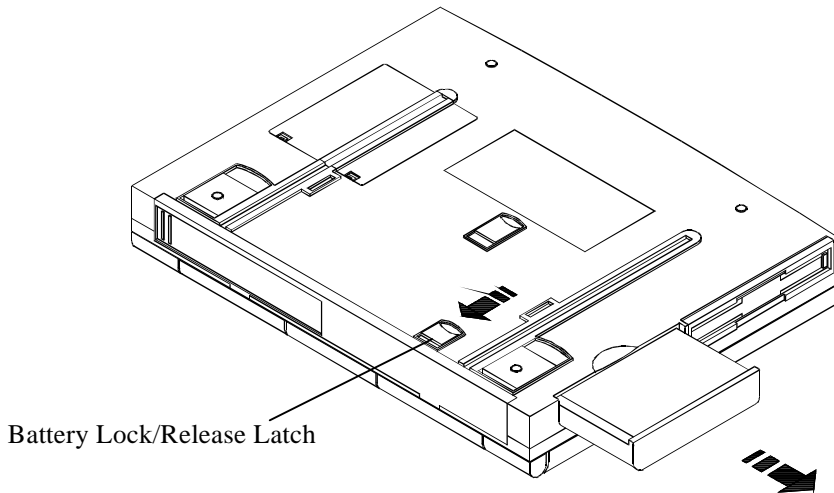

Figure 5-2: Removing the Battery Pack
4. Locate the battery lock/release latch on notebook. Please see **Figure 5-2**.